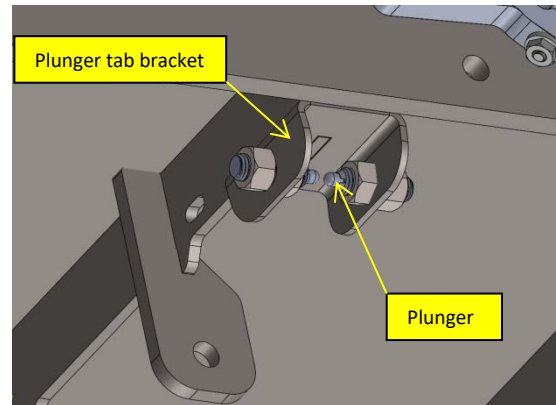

Figure 1
1. Install the spring plungers, with the plunger facing inward, into the holes on each side of the plunger tab bracket. Leave the plungers loose to aid in the installation of the centering tab. **Figure 1.**